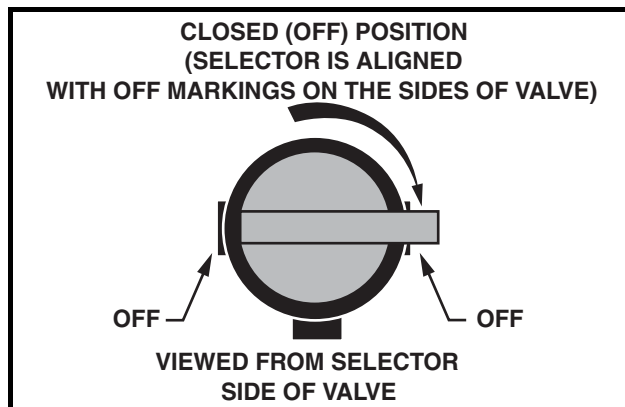

Figure 16 Fuel Shut-off Valve – Closed Position
- Gasoline vehicles only: Turn the fuel shut-off valve to the closed (OFF) position (Figure 16, Page 28).
- **Turn the fuel shut-off valve to the closed (OFF) position (Figure 16).**
- 2.1. Place the Forward/Reverse handle in the NEUTRAL position. Turn the fuel shut-off valve to the closed (OFF) position (**Figure 16**) and run the engine until fuel remaining in the carburetor and fuel lines is depleted and the engine stalls.
- Turn the fuel shut-off valve to the closed (OFF) position (Figure 16, Page 28).